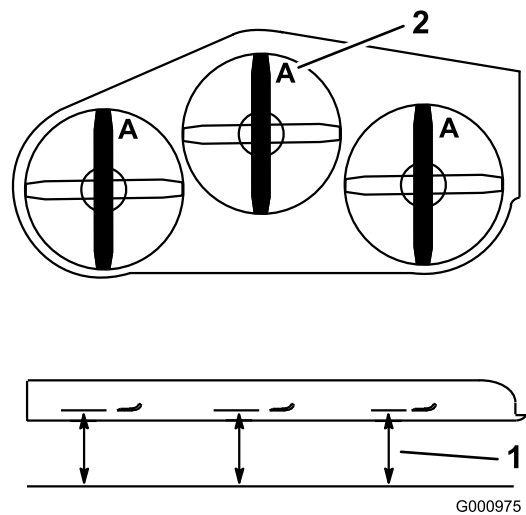

Figure 86
3. With the machine on level surface, position one blade front-to-rear. Measure at **A** and from level surface to the cutting edge of the blade tips (Figure 86).